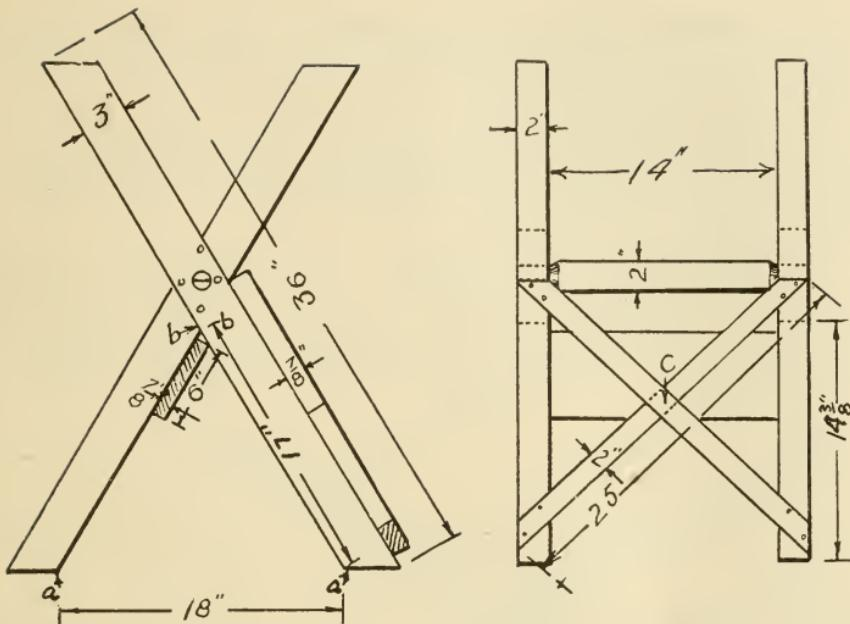

FIG. 29.—WORKING DRAWING OF SAWBUCK.
9. Laying out the angles of the halved joint.—Measure up from points *a*, *a*, Fig. 29, on each leg 17" to points *b*, *b*, and mark; now lay one leg over the other so the points *b*, *b* touch each other, and spread the lower ends until the points *a*, *a* are 18" apart; hold in this position and adjust the bevel square so the beam lies on one leg and the blade along the other leg. Tighten the set screw, and, removing the leg, line across at this point on both legs, but on opposite sides. In order to locate the other point it will be necessary to measure on a
17. Laying out the braces.—Lay the two cross braces in place on the legs of the sawbuck, as in the drawing, and set the bevel square for the halved joint *c*, Fig. 29, following the directions given in Operations 9, 10, 11, 12. The 6" brace on the underside of the legs opposite is fastened on with screws as are the others.